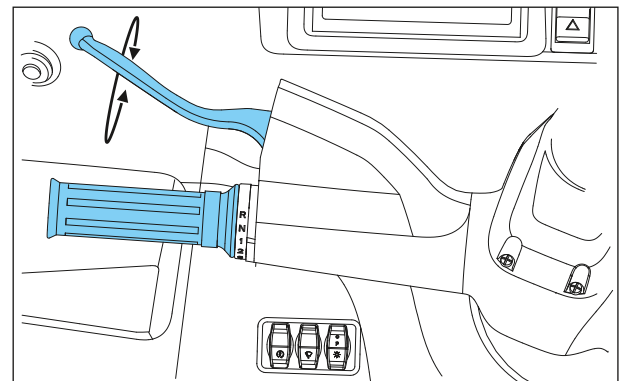

Fig. 2.87
- Check the free play by rotating the tube complete gearshift and check if the neutral 'N' indicator glows on the tell tale cluster. (Fig. 2.87)